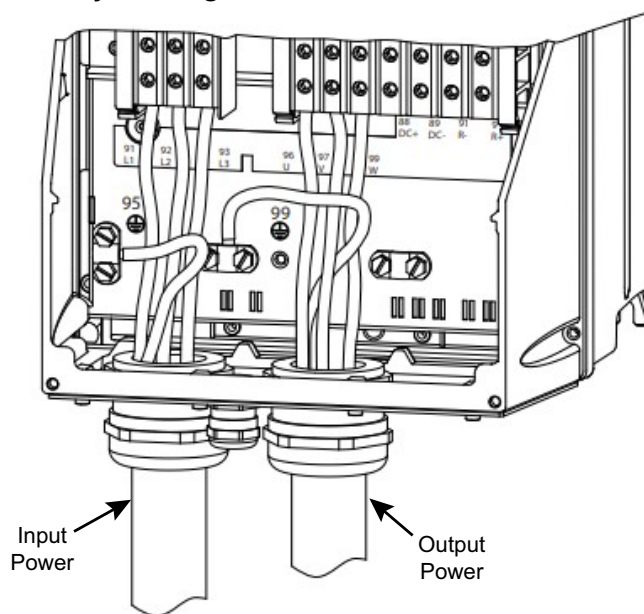

Fig. 4 — VFD Electrical Connection Terminals
9. Connect field-supply 3-phase AC input power wiring to the line power input terminals L1, L2, and L3. Connect ground wire to the nearest grounding terminal. See Fig 4 for VFD connection detail. Comply with local and national electrical codes for cable sizes. See the torque requirement in Table 4.
10. Connect the field-supply 3-phase Compressor wiring to terminals 96 (U), 97 (V), and 98 (W) and other end to Lug side of the TB9. Connect ground wire to the nearest grounding terminal. See Fig 4 for the VFD connection. Comply with local and national electrical codes for cable sizes. See the torque requirement in Table 4.